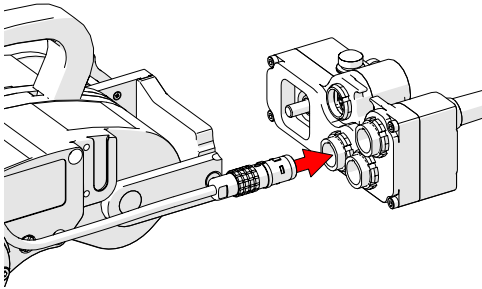

Fig. 101 - Connect to umbilical
4. Connect the right drive module's connector to the umbilical (*Fig. 101*).